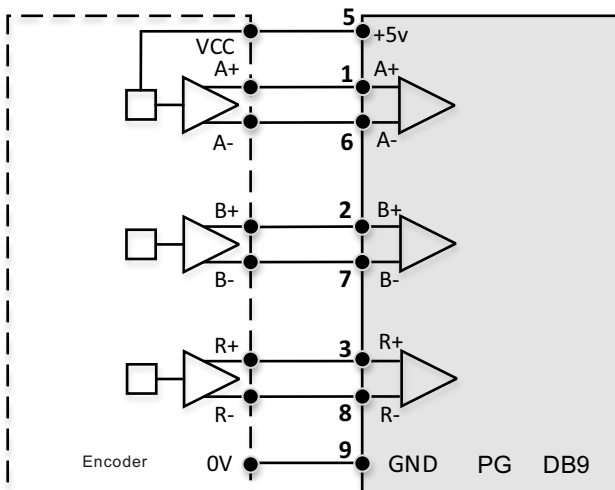

Figure 2 Differential encoder wiring schematic diagram
1. Connect the shielded cables of the differential encoder to the DB9 male port A+/A-, B+/B-, Z+/Z-, 5V, GND of the PG card respectively, and connect the shielded cable to the PE port of the DB9 male connector, as shown in Figure 2. . (The PE port of the screw-connected DB9 male connector is marked as "GND" on the physical object, this "GND" is not the signal GND)